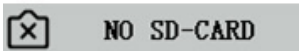

Figure 6-2
2. When pressing the snapshot button, recording videos and taking pictures at a fixed time, the message “insufficient available space” will appear, as shown in Figure 6-2. Please order the SD card space on the computer before inserting the camera for use.